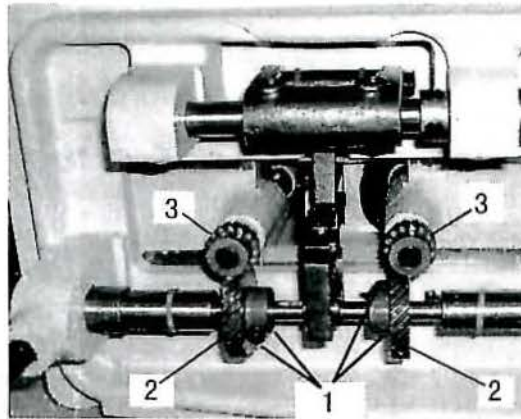

Fig.22
2 screws (1) for hook driving gear, and tap this gear to the right or left in clearance of 2 mm on the hook driving shaft until the point of the hook is at the center of the needle. Tapping to the right gives an earlier hook timing, and to the left gives later hook timing. Except in the above case, to adjust in changing gear condition between hook driving gear (2) and hook shaft gear (3). Securely tighten the 2 set screws (1) for hook driving gear after finished adjustment. (Fig.22) .